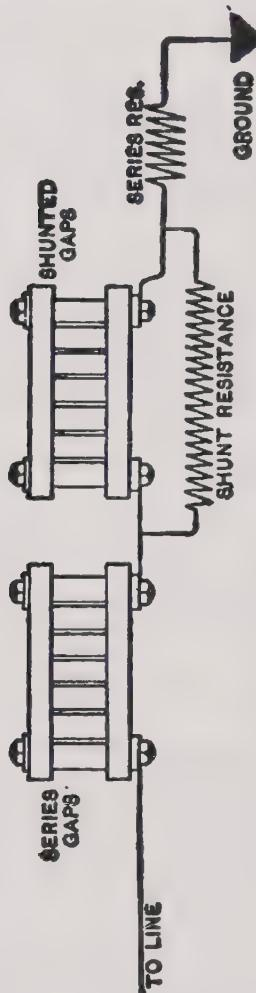

Fig. 40. Arrangement of Arrestors and Resistances for High Voltages.
[In Fig. 40 is shown the beginning of the "new idea" in lightning arresters which will be discussed at length further on.]
*Question 20.* How does the non-arching arrester in Fig. 40 operate?